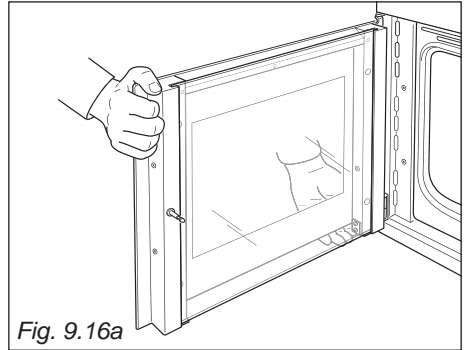
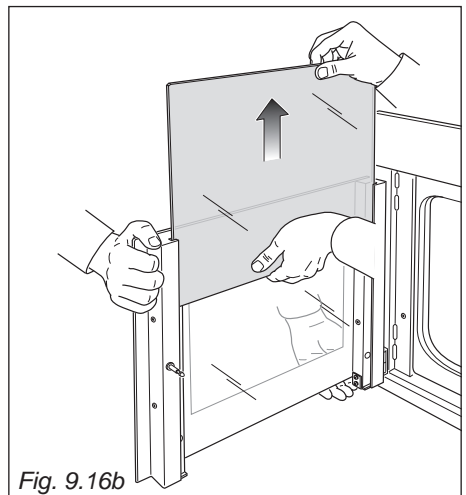

Fig. 9.16a
Fig. 9.16b
When removing and replacing the inner glass, the door should be held still by one person (fig. 9.16a). A second person should gently remove the glass (fig. 9.16b).
- Gently pull out the inner pane of glass (fig. 9.16b). Forcible removal of the door glass may lead to damage of the door hinges.